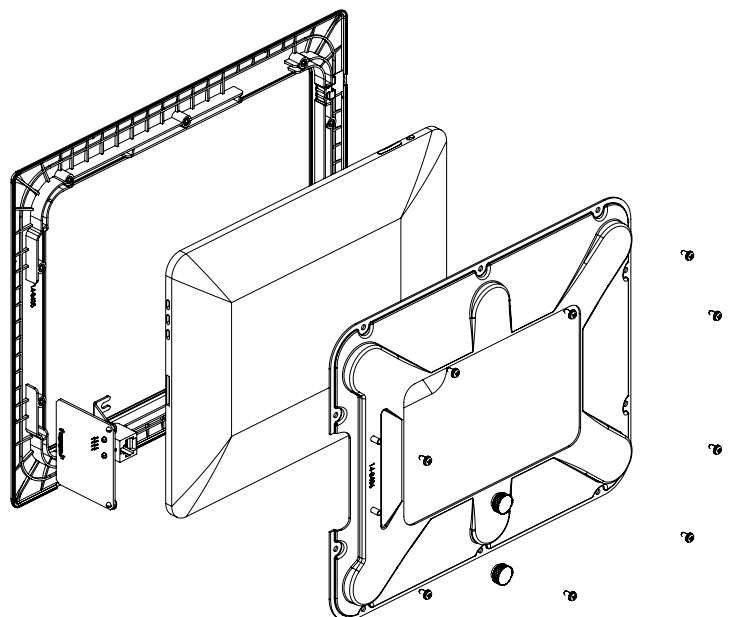

Figure 6: Mounting iPad to bezel
8. Mount iPad to the bezel by placing iPad into nesting area on rear of bezel and attach metal retainer with ten (10) machine screws and washers as shown in figure 6 with the #1 Phillips screwdriver